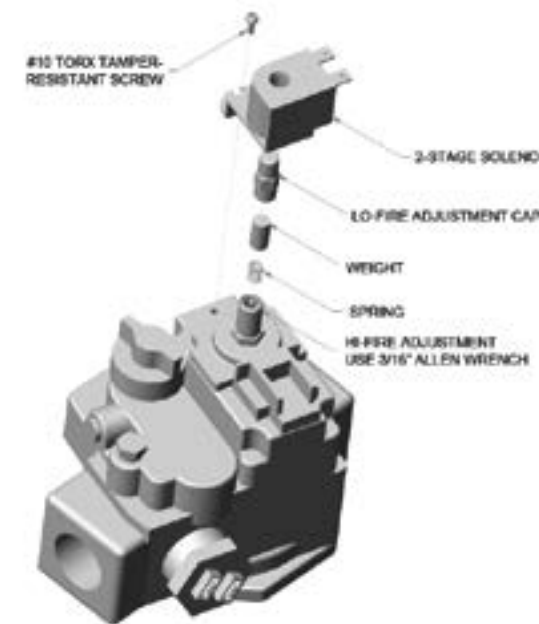

Figure 45. 2-Stage Gas Valve Adjustment (Invensys)
5. Use a 3/8" wrench and remove the aluminum cap located under the solenoid valve. Count number of turns when removing the cap. Be careful not to drop the cylinder (weight) or the small spring that is under the cap. See Figure 45.
8. Install the spring, weight and aluminum cap. Tighten the cap using same number of turns as was used in removing the cap. See Figure 45.